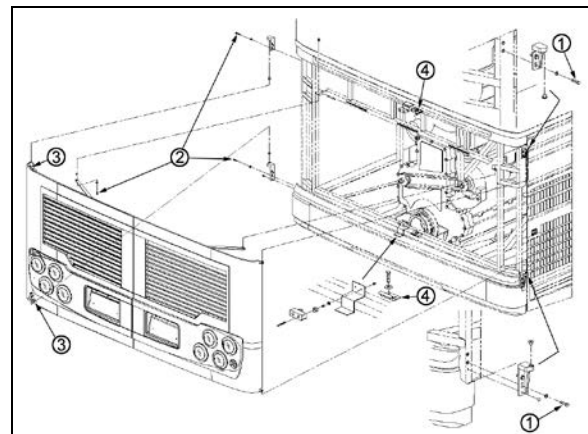

FIGURE 32: ENGINE COMPARTMENT DOOR
1. Loosen the bolts, (1, 2 Fig. 32) holding the hinge to the vehicle structure to shift the door "UP or DOWN".
2. Loosening the bolts (3, Fig. 32) allows the door to be shifted "LEFT or RIGHT" and "IN or OUT".
To adjust the latch mechanism (4, Fig. 32) and the striker pin: